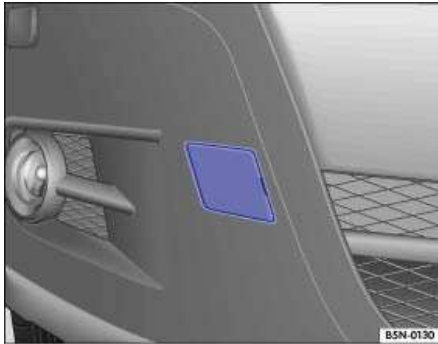

Fig. 45 In the right front bumper: removing the cover.
⇒ Fig. 45. The cover has to be removed to reach the hole. Use the lug wrench to install the towing eye into its mounting bracket. Make sure it you install it all the way and that it is secure.
- Using the flat blade of screwdriver, pry the cover ⇒ Fig. 45 off and let it hang on the vehicle.